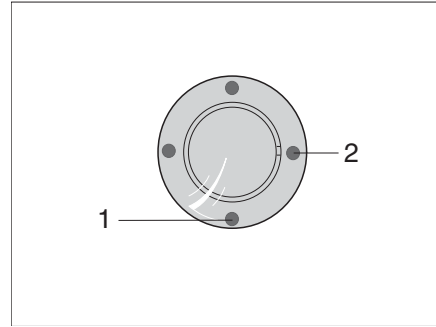
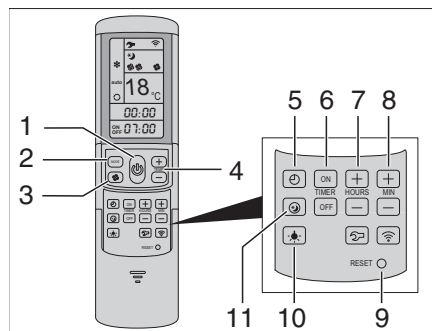

Fig. 255 Infrared receiver/function display
Fig. 256 Remote control
The air conditioning unit is located on the roof of the vehicle. The remote control (Fig. 256) for the air conditioning unit is located in the kitchen area.
The air conditioning unit is ready to operate. The blue LED (Fig. 255,1) lights up.
- To switch on press the button (Fig. 256,1) on the remote control. The blue LED (Fig. 255,1) flashes.
- Set the desired operating mode using the MODE button (Fig. 256,2).
- If necessary, set the desired fan level by using the button (Fig. 256,3) and the room temperature by using the buttons (Fig. 256,4).
When the temperature set on the remote control is reached, the blue LED (Fig. 255,1) goes out, the compressor switches off and the circulation fan continues to run.
- To switch off press the button (Fig. 256,1) on the remote control again.
- To carry out programming, switch on the air conditioning unit by using the button (Fig. 256,1) on the remote control.
- Set the desired operating mode by using the button (Fig. 256,2) and the room temperature by using the buttons (Fig. 256,4).
- Use the buttons (Fig. 256,6) to select the desired function:
- Use the buttons (Fig. 256,7 and 8) to select the desired switching time (15 minutes to 24 hours).
- Confirm the setting with the buttons "ON" or "OFF" (Fig. 256,6).